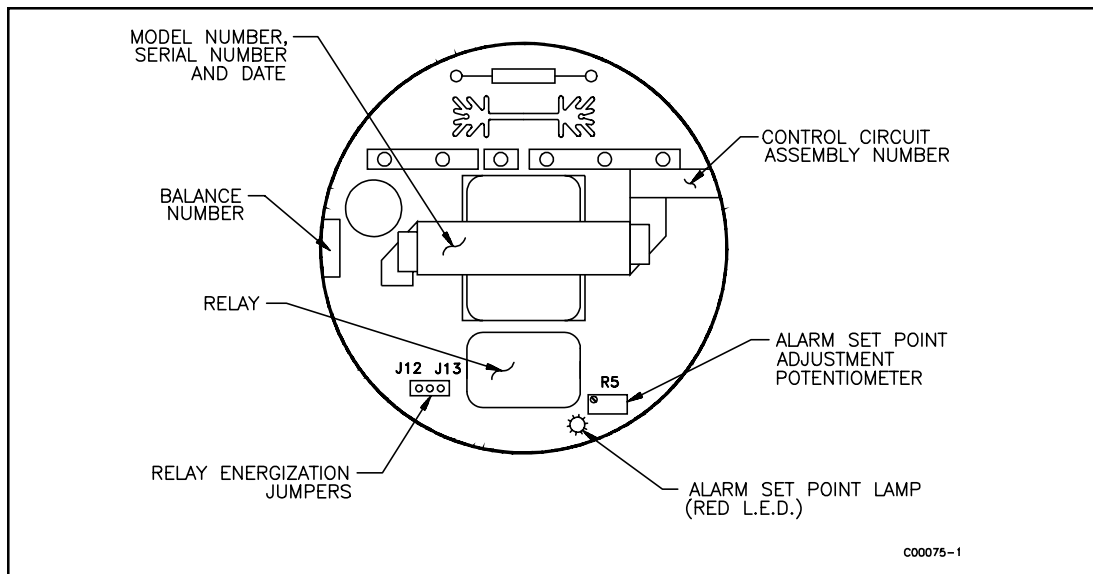

Figure 3-2. Control Circuit Outline Drawing
3. When connecting the relay wiring, do so with complete understanding of what the process requires of the instrument. The instrument has double pole, double throw relay output contacts. See Appendix A, Figure A-2. For the relay logic, refer to Table 2-2 and in Chapter 3 refer to Figure 3-2. Relay contacts are shown in the relay de-energized. Wire in accordance with the system requirements.
3. Locate the potentiometer (R5) and the red LED on the control circuit. (See Figure 3-2.)